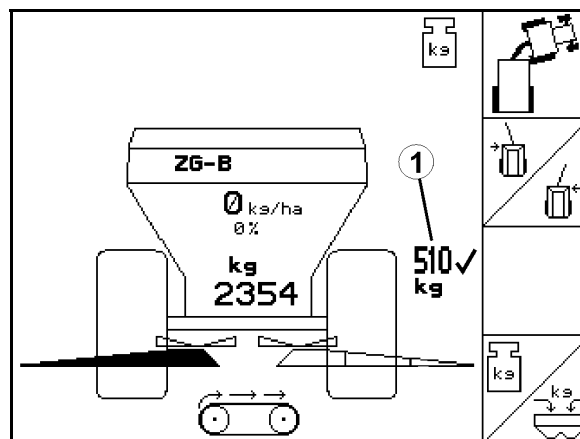

Fig. 57
- The quantity of fertiliser applied is displayed in the Work menu (Fig. 57/1).